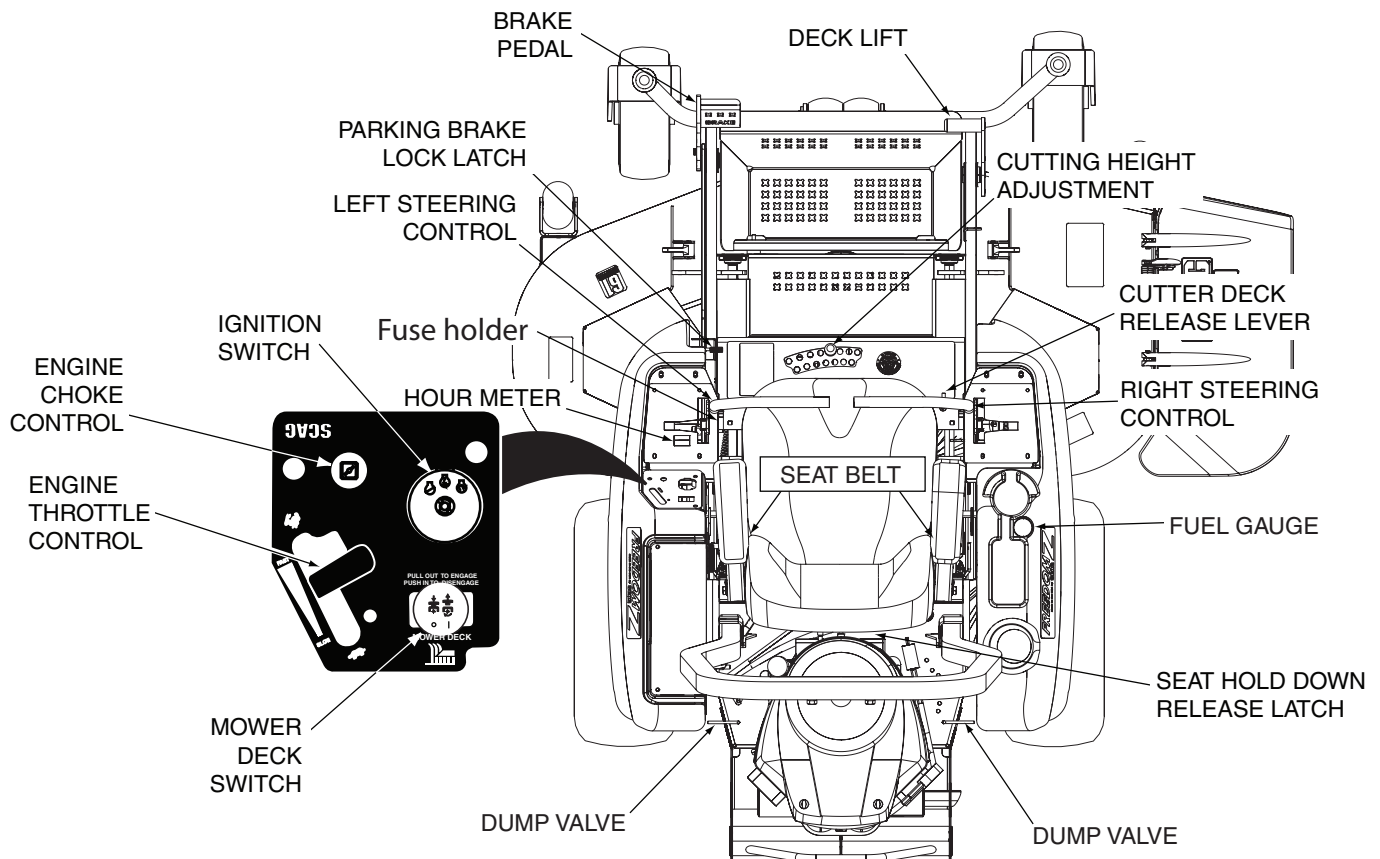
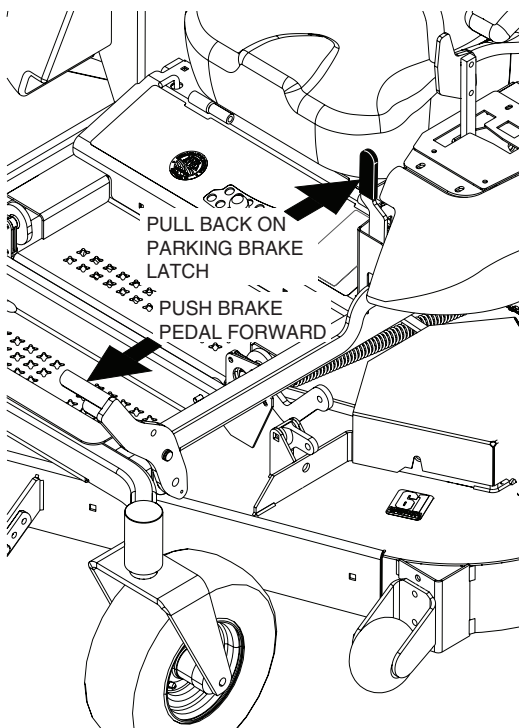
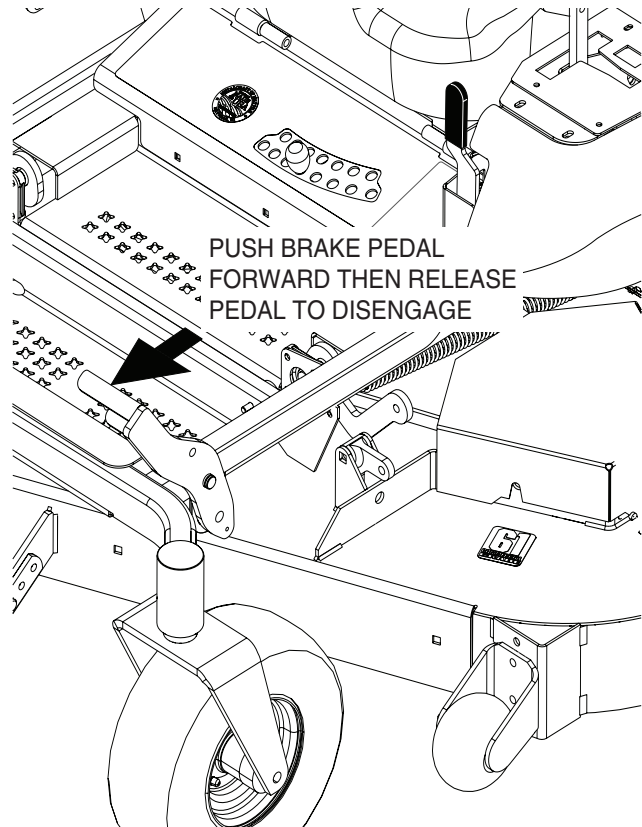

Figure 4-1. Controls and Instruments
Figure 4-2. Engaging the Parking Brake
Figure 4-3. Releasing the Parking Brake
1. **Ignition Switch (Figure 4-1).** The ignition switch is used to start the engine and has three positions; OFF, ON, and START.
2. **Mower Deck Switch (Figure 4-1).** Used to engage and disengage the mower drive system. Pulling up on the switch will engage the deck drive. Pushing down on the switch will disengage the deck drive.
3. **Engine Choke Control (Figure 4-1).** Used to start a cold engine.
4. **Engine Throttle Control (Figure 4-1).** Used to control the engine speed. Pushing the lever forward increases engine speed. Pulling the lever back decreases engine speed. Full back position is the IDLE position. Full forward is the cutting position.
5. **Fuel Gauge (Figure 4-1).** Indicates the amount of fuel in the fuel tank.
6. **Hourmeter (Figure 4-1).** Indicates the number of hours the engine has been operated. It operates whenever the engine is running. Has preset maintenance reminders for engine and hydraulic system oil changes. Will start flashing scheduled maintenance 2 hours before preset time and continue flashing until 2 hours after. Automatically resets.
7. **Fuse Holders (Figure 4-1).** Two 20-amp fuses protect the mower's electrical system. To replace fuses, pull fuse out of the socket and install a new fuse.
8. **Left Steering Control (Figure 4-1).** Used to control the mower's left wheel when traveling forward or reverse.
9. **Right Steering Control (Figure 4-1).** Used to control the mower's right wheel when traveling forward or reverse.
10. **Brake Pedal (Figure 4-1).** Depressing the brake pedal applies the brake.
11. **Parking Brake Lock Latch (Figure 4-1).** Used to lock the parking brake in the engaged position. Fully depress the brake pedal and pull the parking brake lock latch back to lock the parking brake in the engaged position. See Figure 4-2. Fully depress the brake pedal forward to disengage the parking brake lock latch, then release the brake pedal to disengage the brake. See Figure 4-3.
13. **Deck Lift Foot Lever (Figure 4-1).** Used to raise and lower the cutter deck.
14. **Cutting Height Adjustment (Figure 4-1).** Used to set the cutter deck at the desired cutting height.
15. **Deck Release Lever (Figure 4-1).** Used to lock the cutter deck in the transport position. Push the foot pedal forward and pull back on the release lever to release the cutter deck for normal mowing.
16. **Seat Belt (Figure 4-1).** Used to secure the operator. Seat belt must be worn at all times during operation.
17. **Seat Hold Down Release Latch (Figure 4-1).** Located behind the seat. Used to secure the seat in the operator's position. Release the latch to gain access under the seat.
Do not travel forward over a curb. The mower will hang up on the curb. Raise the deck and travel backwards over the curb at a 45 degree angle. (See Figure 4-1 item 12 for cutter deck raising description.)
To stop the reverse travel, allow the steering control levers to return to the neutral position. If the mower is to be parked, place the handles in the neutral lock position, fully depress the brake pedal and pull back on the parking brake lock latch to engage the parking brake. See Figure 4-2.
5. Fully depress the brake pedal and pull the parking brake lever back to engage the parking brake. See Figure 4-2.